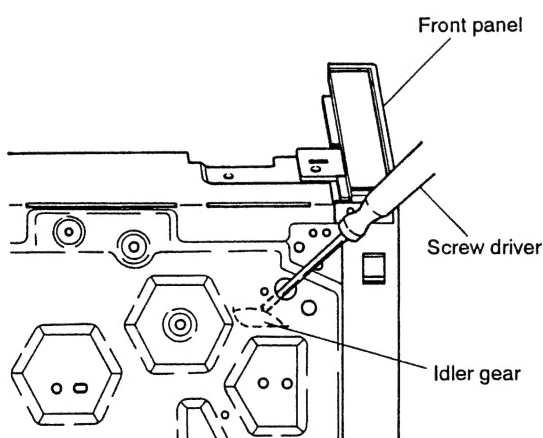

Fig. 2
- (1) Stand the product right side down.
- (2) Remove the left insulator (or the foot assembly) on the front.
- (3) As shown in figure 2, rotate the idler gear by inserting the screw driver to the bottom hole where the insulator (or the foot assembly) is removed from.